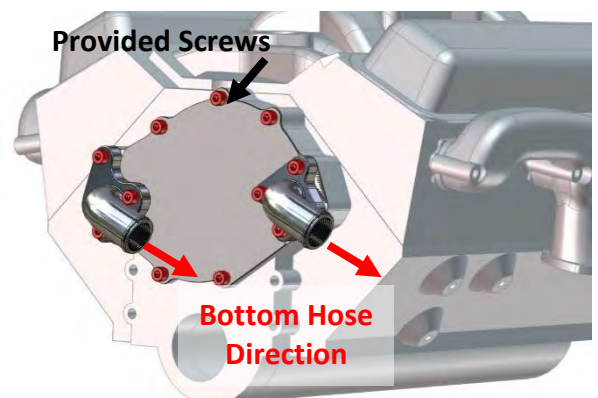

Figure 3
6. Fit both adaptors to the timing cover and secure each adaptor to the engine block with the screws supplied (*refer to screw size chart*). **NOTE: All hex cap screws in the left adaptor should be pre-installed before assembly.** Ensure both inlet adaptors are pointing towards the bottom radiator outlet (figure 3).